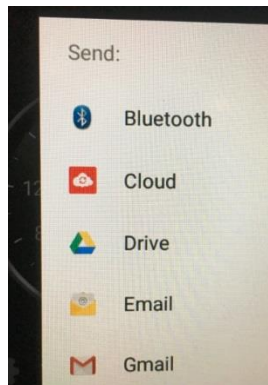

Figure 19, Email File
3. Choose the email you wish to use to send the file (See figure 19) and send it to support@jmturbocoopers.com.